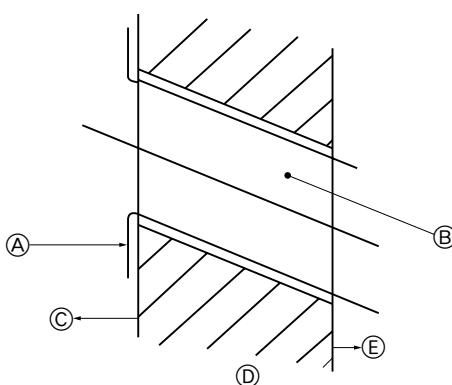

Fig. 3-7
2) Drilling the piping hole (Fig. 3-7)